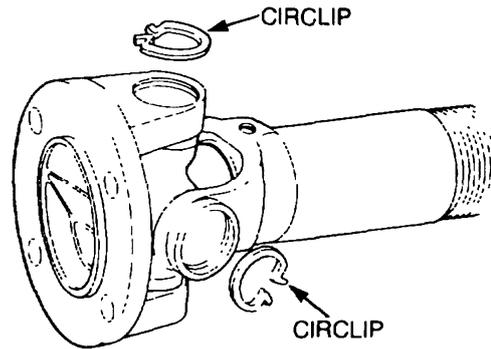

Figure 89 Circlip Removal
- Remove the circlips (Figure 89).